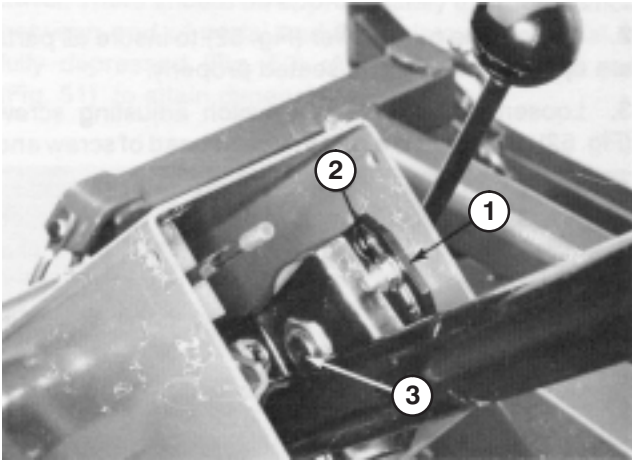

Figure 42
1. Remove knob from parking brake and self tapping screws from steering column cover. Slide cover up steering shaft to expose pivot bracket (Fig. 42).
2. Loosen small nut, rotate pivot bracket until it tightens large nut below (Fig. 42). Retighten small nut.